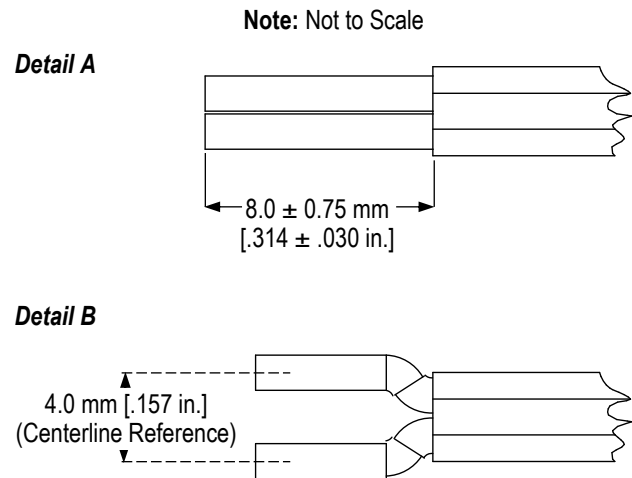

Figure 2
- Strip the outer cable jacket as shown in Figure 2, Detail A.
- Position and splay the cable conductors outward as shown in Figure 2, Detail B.